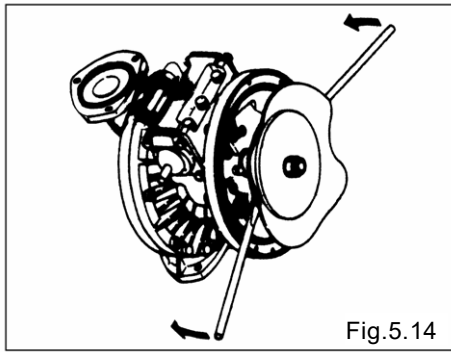

Fig.5.14
- Grip the inside center disk using crowbars and draw it to the opposite side, then turn the diaphragm over. (exclude B_H, B_S type) [Fig.5.14, 5.15]